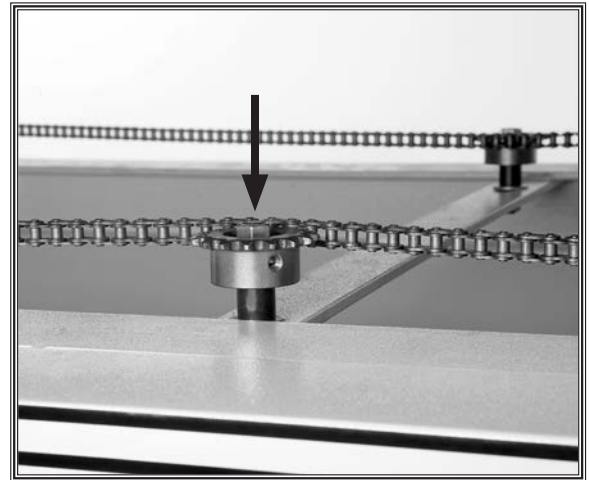

Figure 64. Adjustable idler roller sprocket.
5. Using two 14mm wrenches, loosen the adjustable idler roller (**Figure 64**).